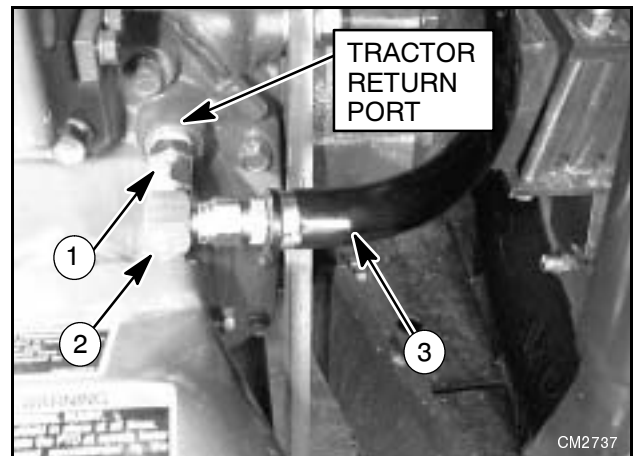

Figure 31 Tractor Return (OUT) Port
2. Route hose under fuel tank, then over right rear axle to tractor Return port (above the upper right of the PTO shield) and connect. Use straight adapter (1) and 90-degree elbow (2) as shown in Figure 31.